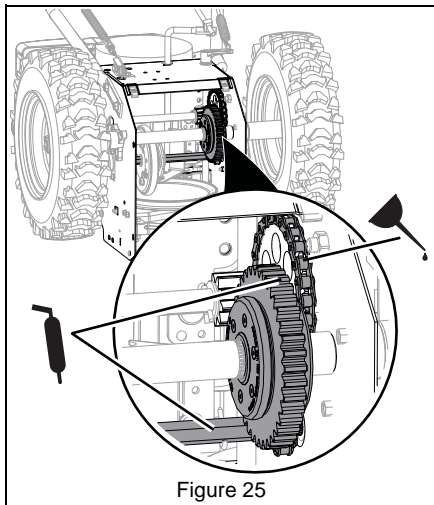
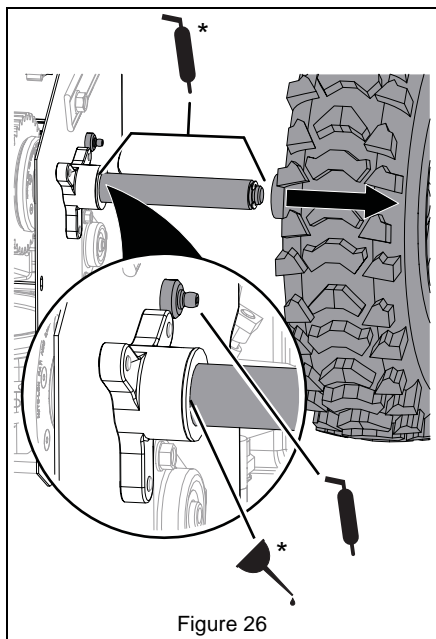

Figure 25
Figure 26
2. Lubricate as shown in Figure 25 and Figure 26.